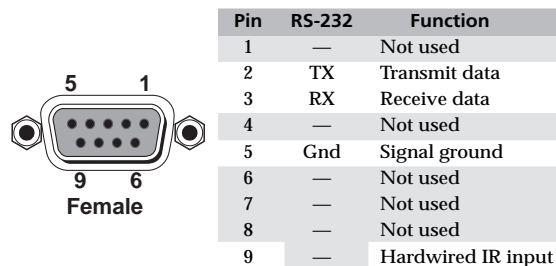

Figure 2-7 — RS-232 port pin assignment
- ⑨ **RS-232 connector** — Connect a host device, such as a computer or control system, to the switcher via this 9-pin D connector (figure 2-7) for remote control of the switcher.